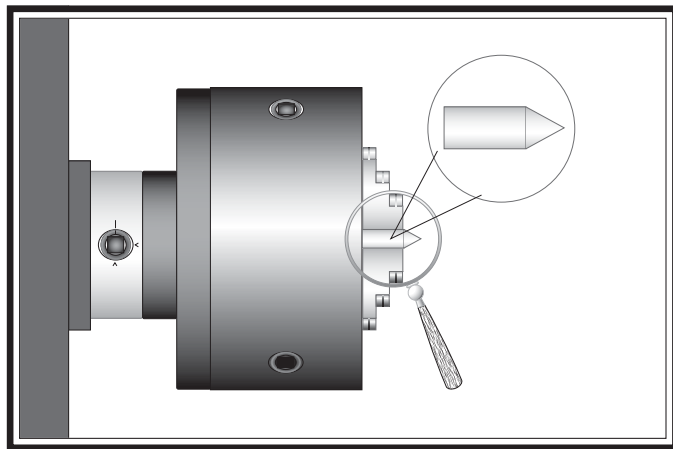

Figure 42. Turning a dead center.
3. Use the other piece of round stock to make a dead center, and turn it to a 60° point, as illustrated in **Figure 42**.